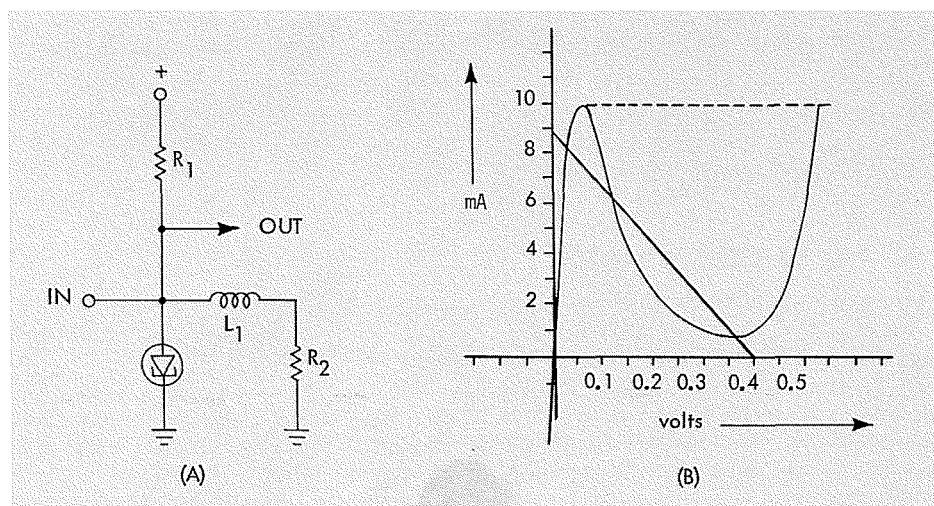

Figure 5 (A) Another version of a monostable tunnel-diode switching circuit. The coil, L_1 , helps to increase the output voltage and switching speed.
(B) AC and DC load lines superimposed on a 10-mA curve of the tunnel diode in Figure 5, (A).